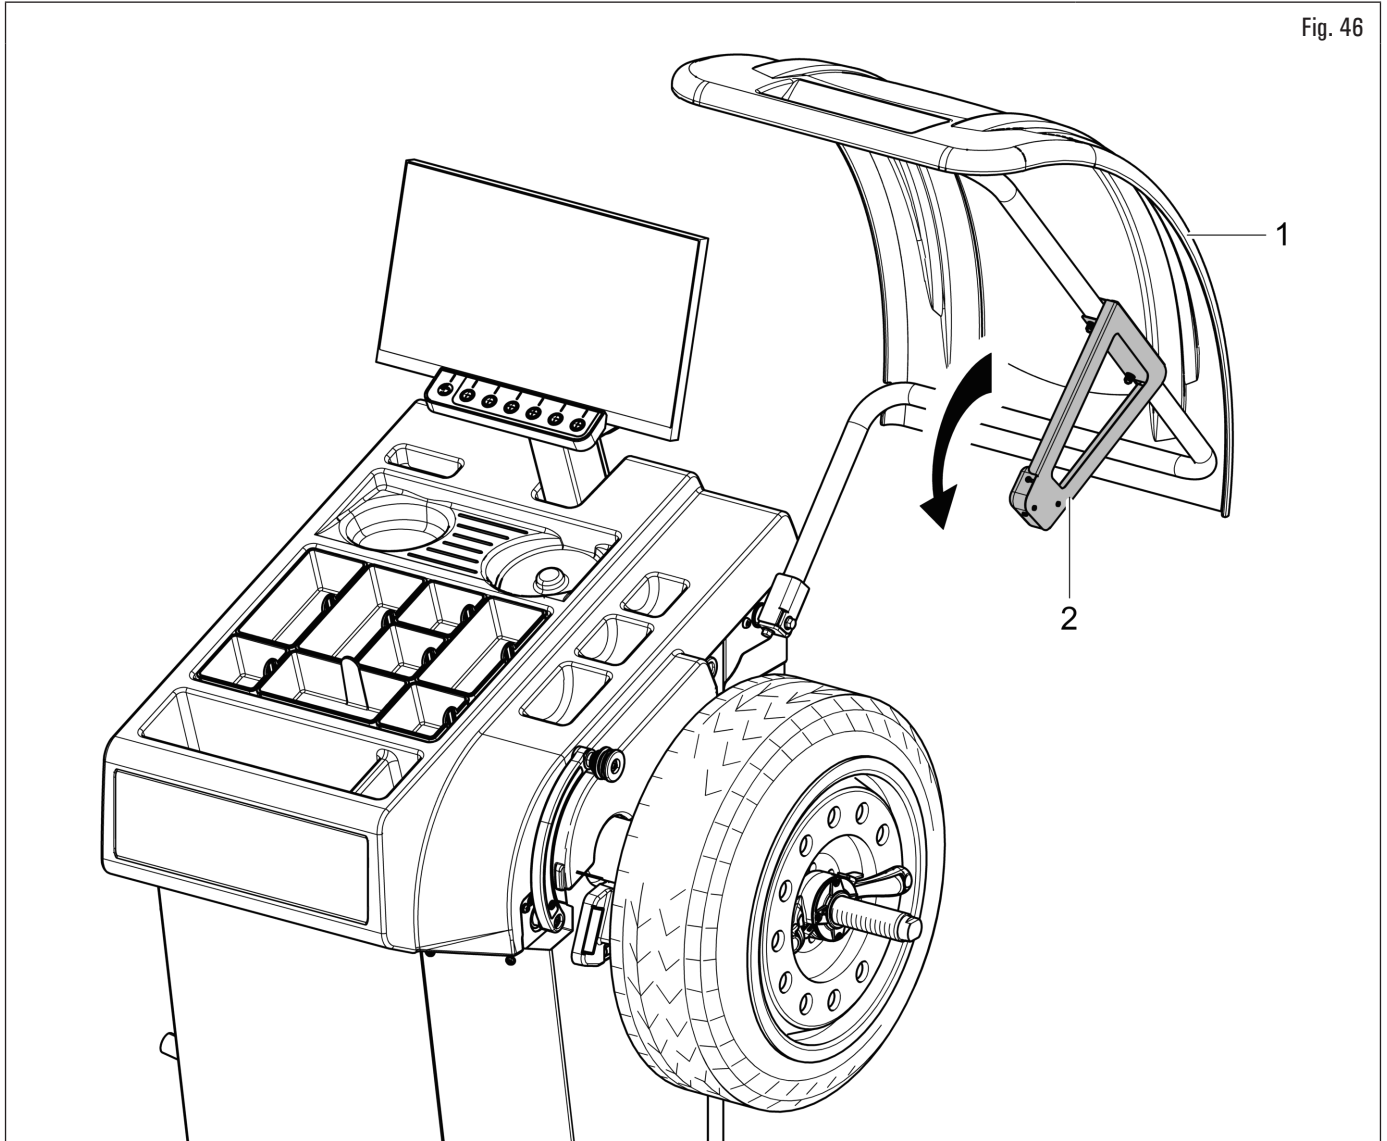

Fig. 46
Each time that the wheel protection guard (Fig. 46 ref. 1) is closed, the automatic width measuring device (Fig. 46 ref. 2) measures the width of the wheel that is mounted on the spindle. the relevant value is stored automatically in the fields prepared of the chosen balancing program.
- Each time that the wheel protection guard (Fig. 46 ref. 1) is closed, the automatic width measuring device (Fig. 46 ref. 2) measures the width of the wheel that is mounted on the spindle. the relevant value is stored automatically in the fields prepared of the chosen balancing program.